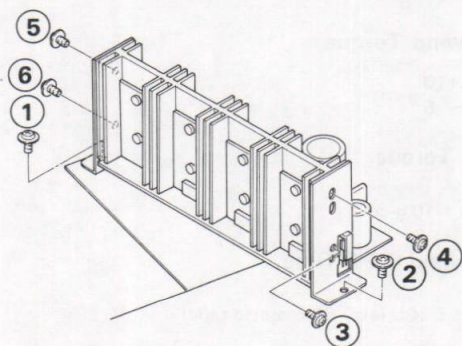
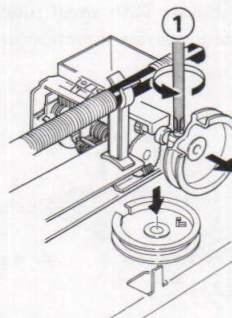

Fig. 9
Fig. 11
- 1) Remove 6 screws, (1) and (6). (Refer to Fig. 9)
- 2) In order to prevent the dial cord from slipping off the dial drum when removing the tuner circuit board, loosen setscrew and as shown in the figure, set dial drum on raised tab of chassis. (Refer to Fig.11) (Refer to Fig. 9).